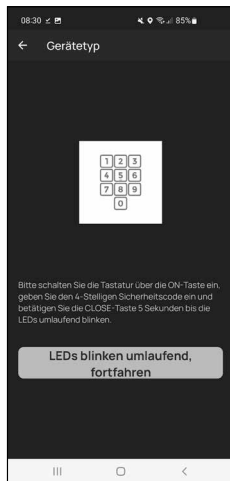

Fig. 7
- ⑧ You will be asked to set the keypad to programming mode (Fig. 7). Instructions on how to do this can be found in the chapter "Setting the keypad into programming mode" on page 3. As soon as the keypad is in programming mode, indicated by the LEDs on the keypad flashing continuously, tap the "LEDs flashing continuously, continue" key in the app (Fig. 7).